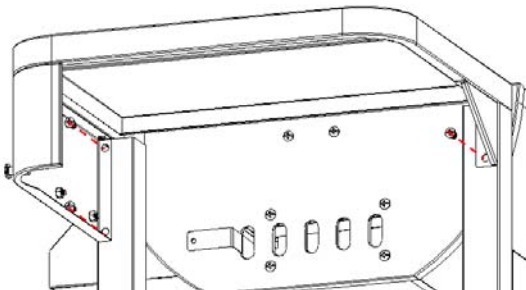
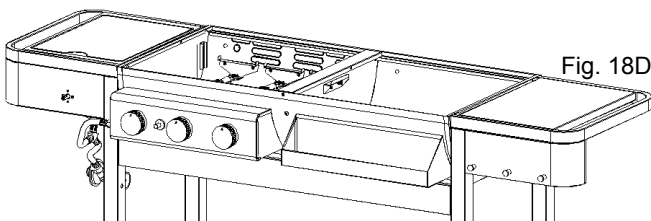

Fig. 18C
Fig. 18D
Attach the Side Shelf and Side Shelf Control Panel Assembly to the Right Rear Leg #1 and Right Front Leg #2 using (3) M6x12 bolts as shown as Fig. 18C and Fig. 18D.